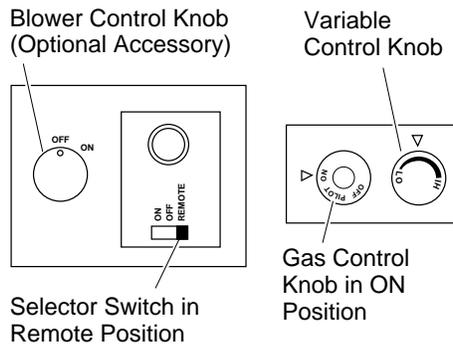

Figure 57 - Setting the Selector Switch, Gas Control Knob, and Variable Control Knob for Remote Operation
1. After lighting, let pilot flame burn for about one minute. Turn gas control knob to ON position. Adjust variable control knob anywhere between HI and LO. Slide the selector switch to the REMOTE position (see Figure 57). **Note:** The burners may light if hand-held remote ON button was on when selector switch was last turned off. You can now turn the burners on and off with the hand-held remote control unit.